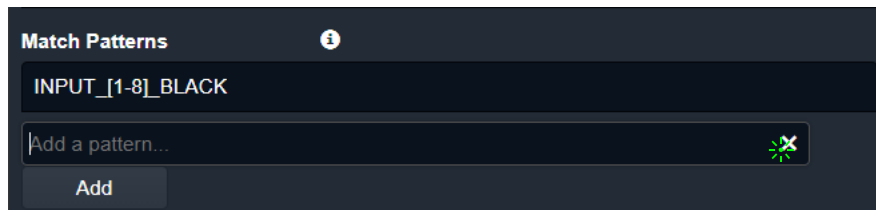

Figure 50: Clear Match Pattern Entry Text Box
- 1 Clear the text entry box by clicking on the **x** that appears when the cursor hovers over the right-hand end of the text box. (See Figure 50.)